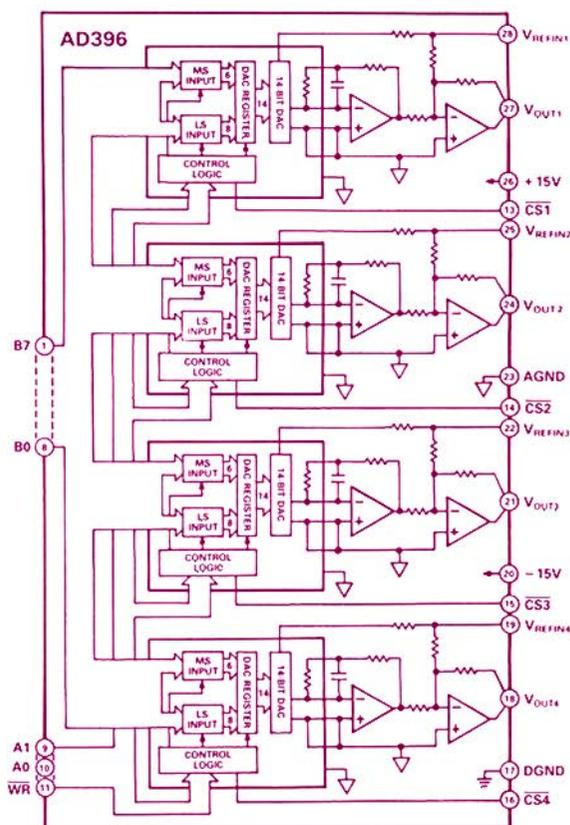

Figure 2. Block diagram of the AD396 quad DAC.
The DACs (Figure 2) interface to the 8-bit bus via a pair of input data registers and 4 sets of DAC registers, in two bytes—6 (MS) and 8 (LS) bits. A pair of address lines, with the \overline{CS} and \overline{WR} lines, control the device selection and data transfer from the bus, determining whether the LS or MS input register is loaded (or both or neither, or if transparent). A set of four \overline{CSk} lines determine which DAC is loaded (or none or all).